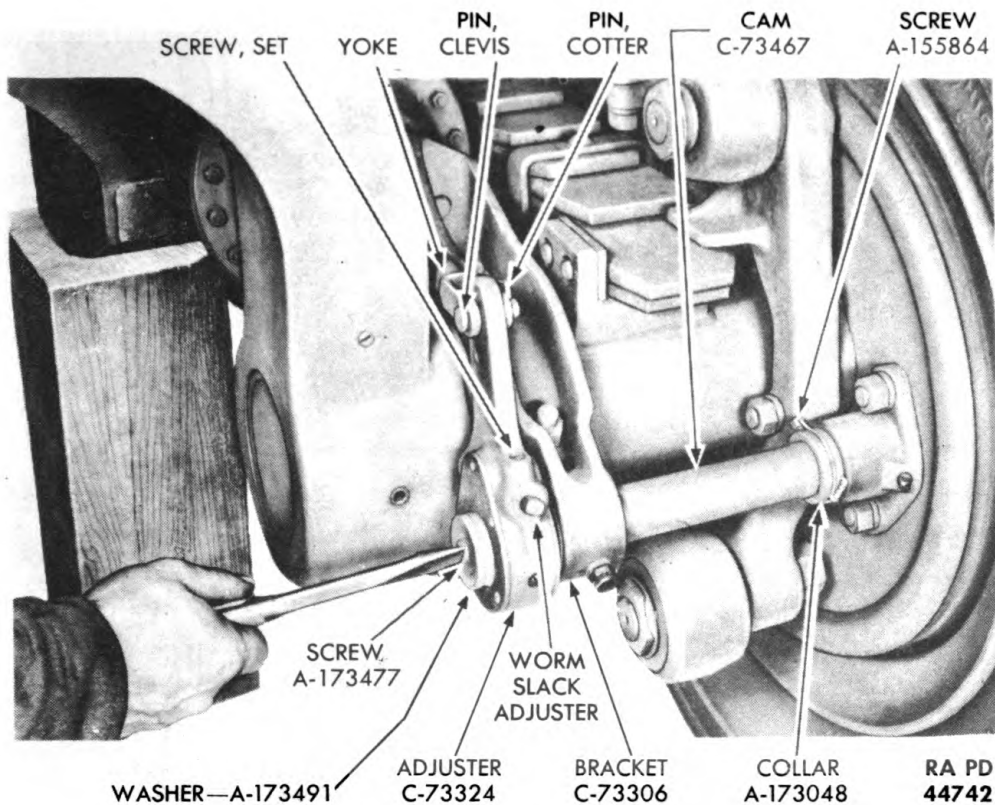

Figure 263—Removing Right Rear Slack Adjuster
(2) Remove screw A173477 and washer A173491 from cam C73467 (fig. 263).
(3) Loosen slack adjuster set screw, then turn slack adjuster worm and rotate slack adjuster C73324 enough to remove it from cam.